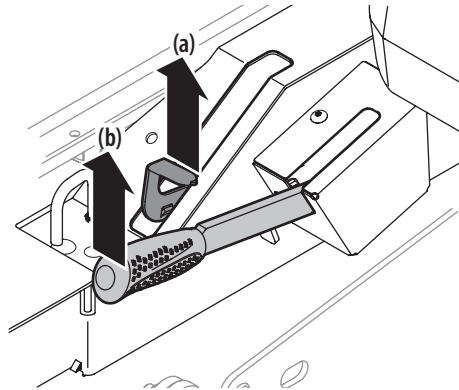

Figure 2-2
4. Engage the transmission bypass valves by pulling the transmission bypass lever (a) outward then upward and all the way back. See Figure 2-2.
6. To release the transmission bypass lever (a), push the lever forward. See Figure 2-2.
7. To engage the parking brake, pull back completely on the parking brake lever (b). See Figure 2-2.